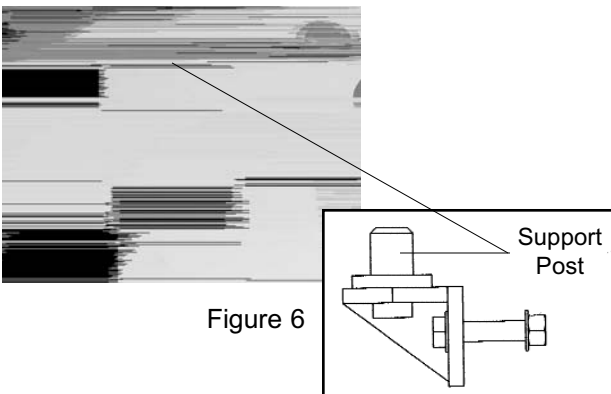

Figure 6
- 1) The support plate mounts flush to the front of the anchoring stand. (See Figure 6 and its Inset.) This design positions the support post at a 90 degree angle allowing it to mate with the lift tab hole at the rear anchoring location.